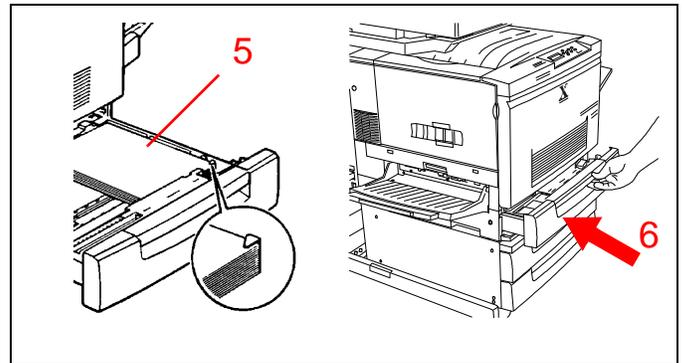

Figure 10
5. See Figure 10. Reload the paper in the tray, being sure the paper is under the fluke at the front right side.